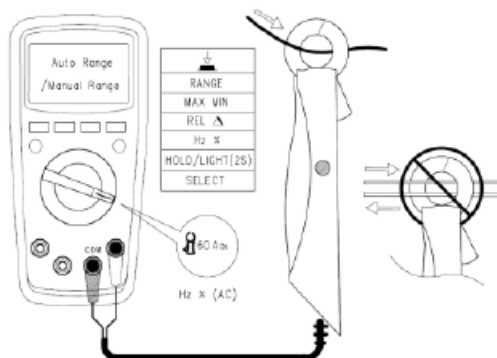

Figure 11
- 60A AC and DC current clamp measurement (See Figure 11).